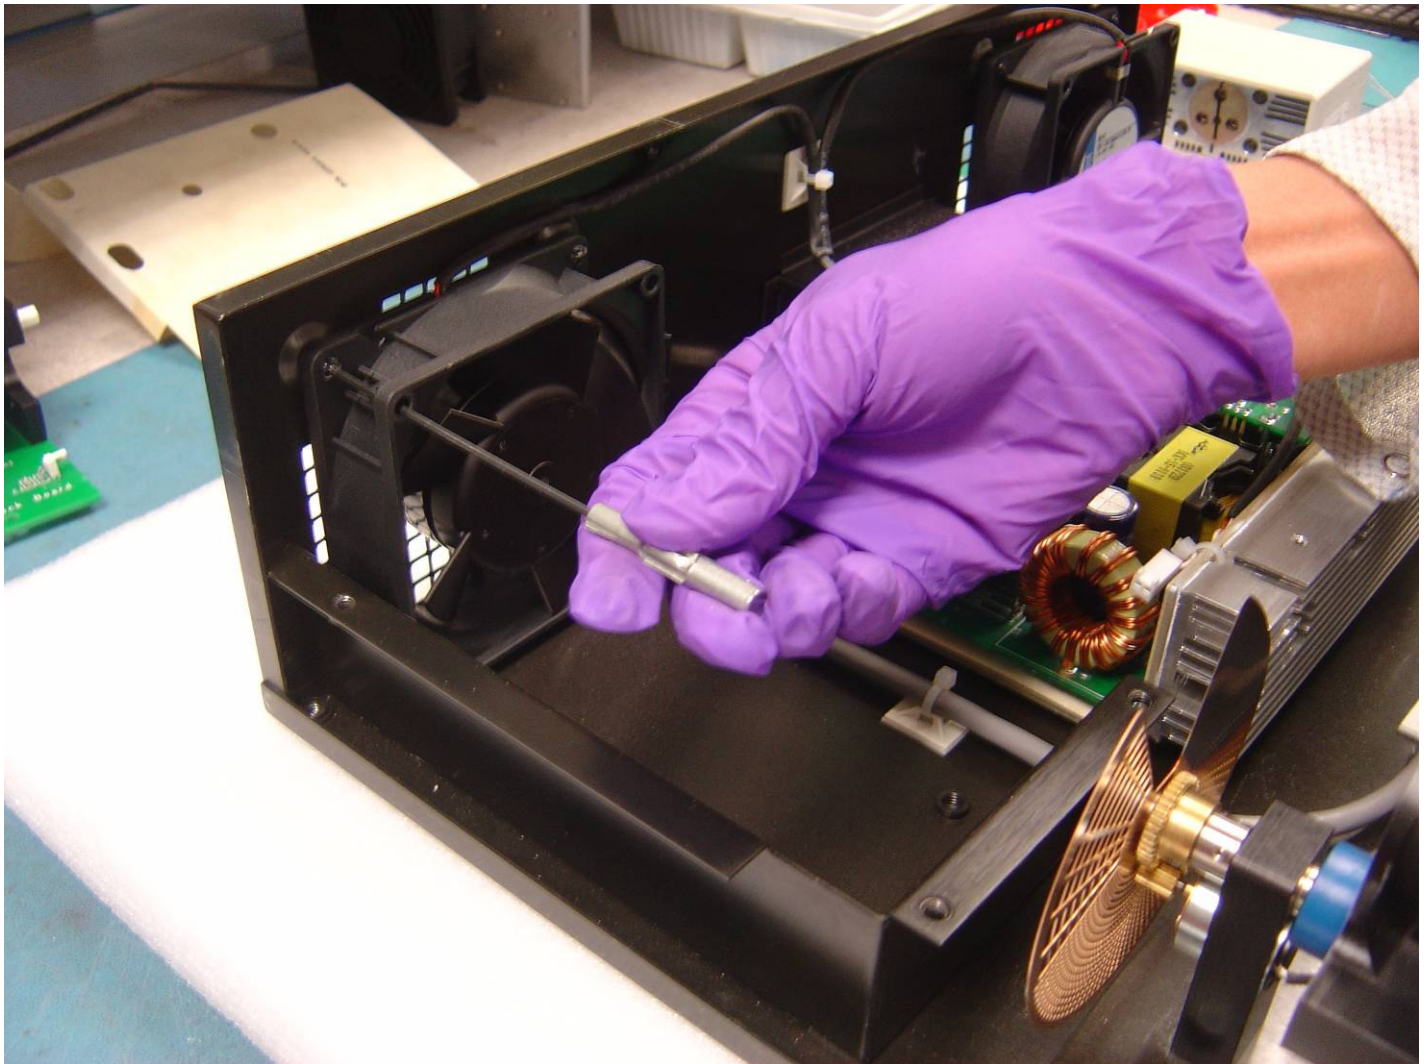

Figure 24
10. Remove the four plastic mounting rivets for each fan, cut cable tie, and remove fan assembly. Note orientation of fans when reinstalling – Figs. 24 & 25.